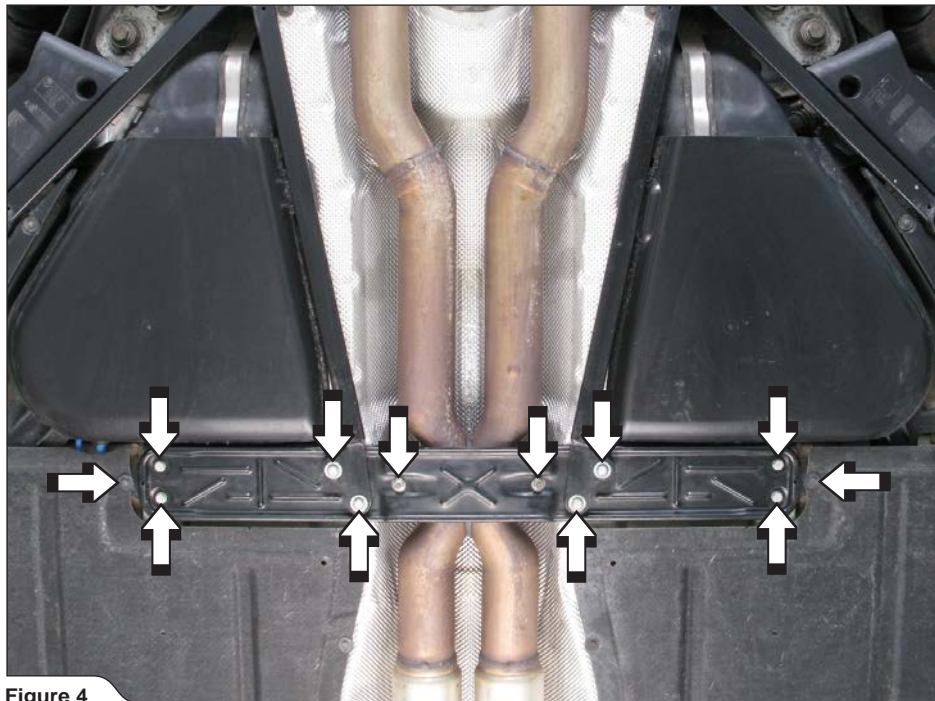

Figure 4
2. Unscrew the marked bolts and nuts. Carefully remove the stock collector's bracket off the vehicle (**Figure 4**).